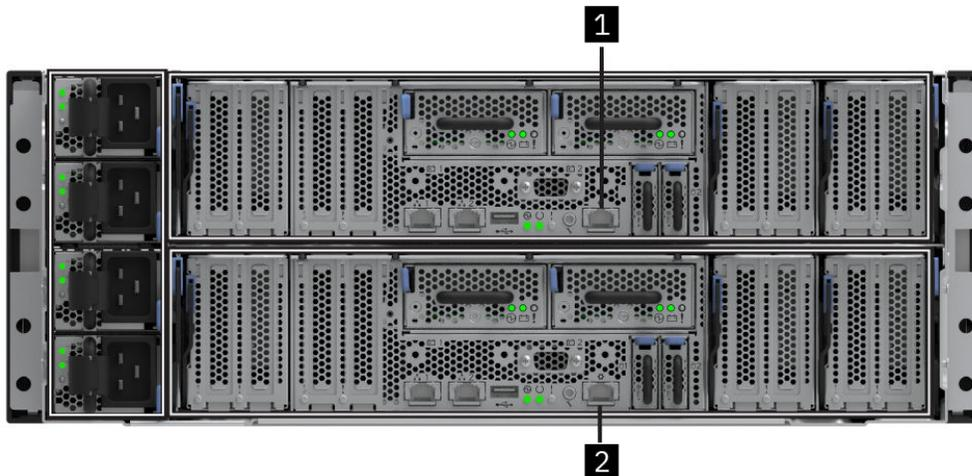

Figure 65. Technician port
4. Disconnect the personal computer from all networks. Connect an Ethernet cable between the port of the personal computer that is configured in step “2” on page 108 and the technician port in the left canister (1) that is shown in Figure 65 on page 108.